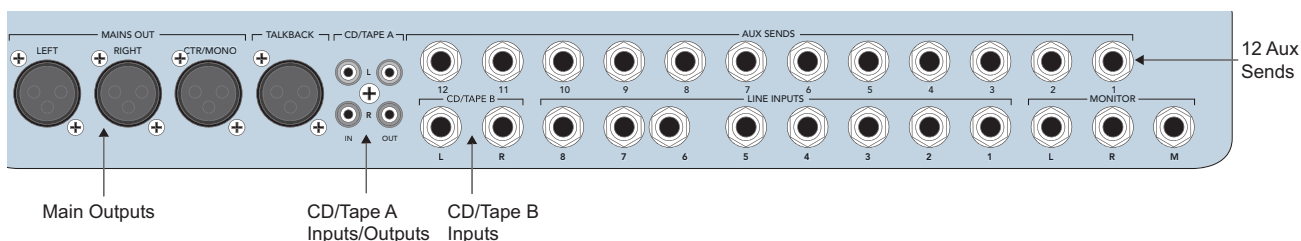

Figure 3-1 Mains and Aux Sends Outputs
1. Plug in a left-right pair of amps/speakers into the **MAINS OUT LEFT** and **RIGHT XLR** connectors (Figure 3-1).
1. Connect the CD player into CD/TAPE A or B (Figure 3-1).